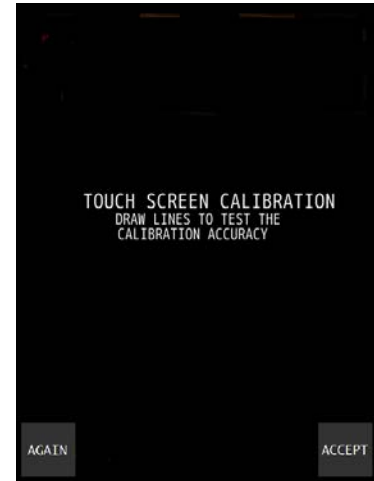

Figure 25: Calibration Lines
4. If the text VALID CALIBRATION appears, then the calibration is performed accurately. Test calibration for accuracy by dragging a finger across the screen, see *Figure 25: Calibration Lines* on page 32.